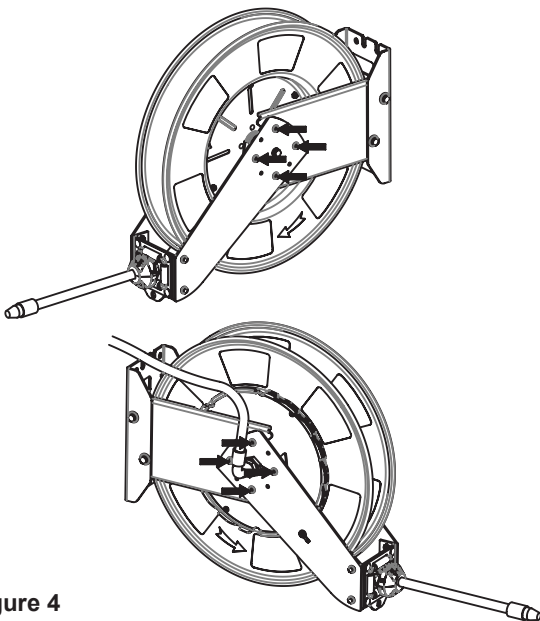

Figure 4
8. For smooth operation and longer life, position the reel mounting brackets as per figure 4, with hose outlet always allowing for the tangent in relation to the reel and hose.